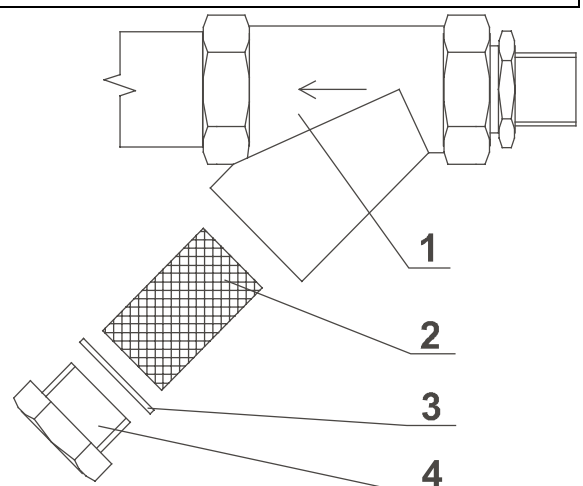

Fig. 5.10.
2. Unscrew the filter plug (fig.5.10., pos.4) and remove the filter sieve (2).
4. Put the sieve (2) and gasket (3) back to the filter body (1) and tighten the plug (4).